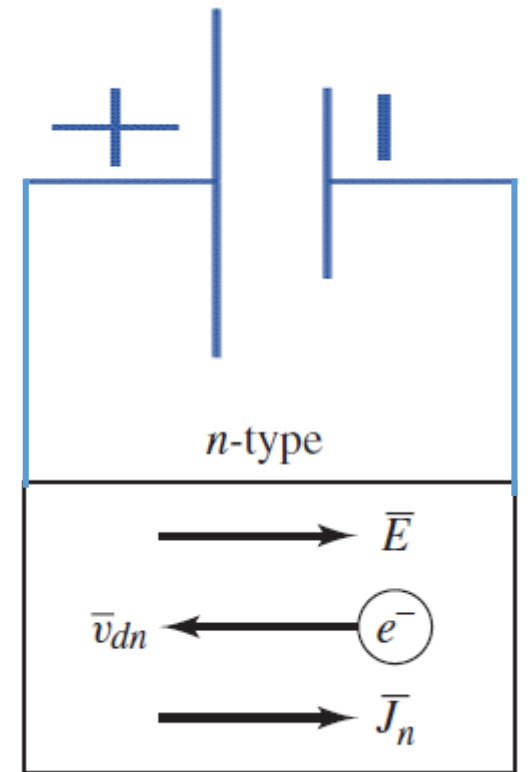

Figure 1.8(a)
- Next consider a p-type semiconductor (Figure 1.8(b)).